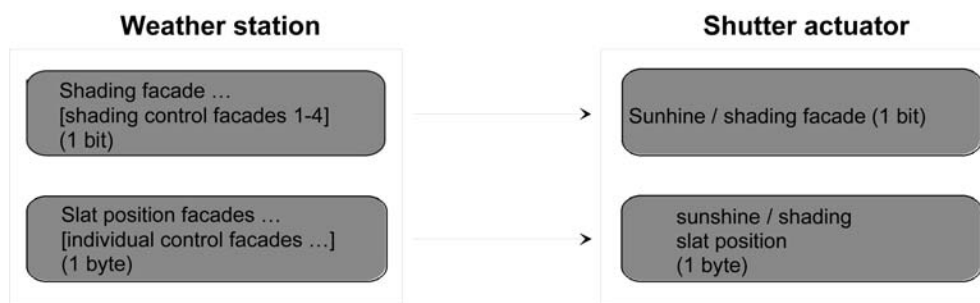

Figure 28: Programming of the communication objects for application example III
- fixed blind position setting.(Figure 28)